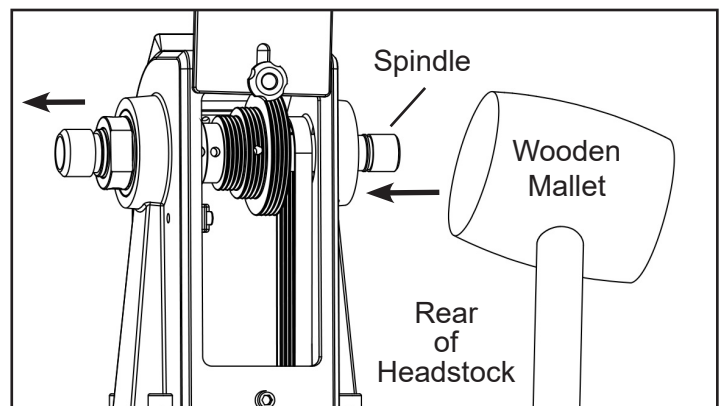

FIG. 20
6. Hold the spindle pulley and carefully knock the spindle, towards the tailstock. Use a wooden mallet or hold a block of wood against the spindle end to prevent any damage when it is hit with a hammer. FIG. 20. The pulley, now loose, will slide along the spindle.